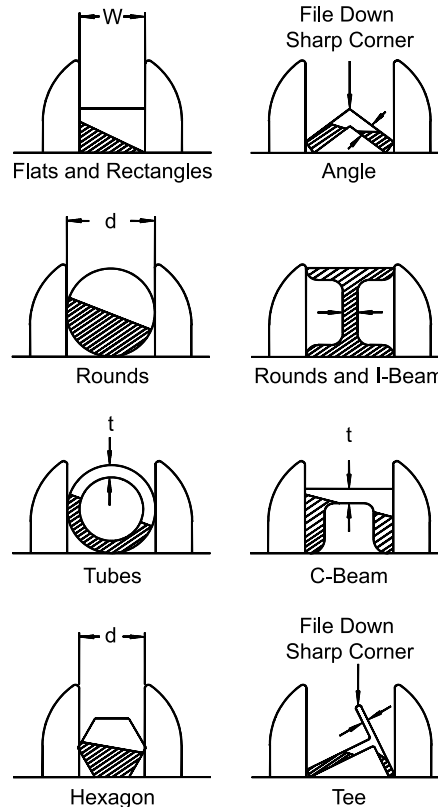

Figure 8 – Clamping Configurations and Thickness Average Calculation
Refer to Figure 8.
- The workpiece should rest flat on the workbed without the need for side support. Some suggested configurations are shown in Figure 8.
Refer to Figures 8 and 9.
- Flats and rectangles have thickness averages of w (See Figure 8).